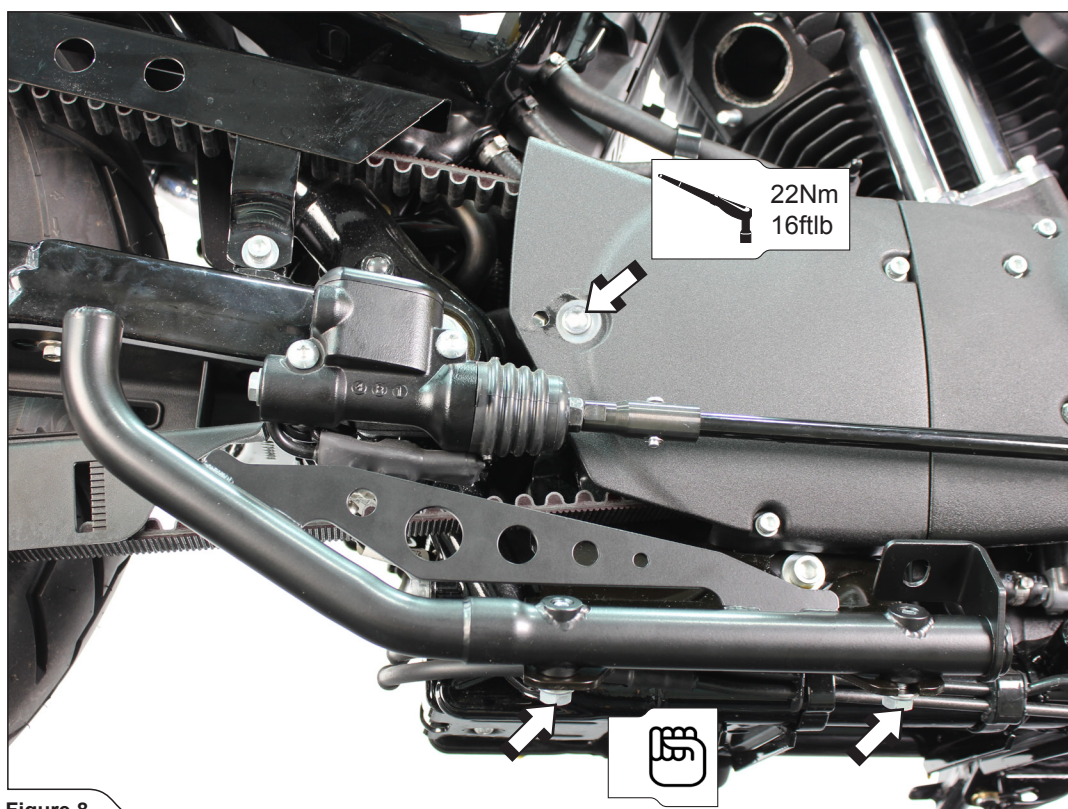

Figure 8
2. Install and hand tighten the muffler's bracket as shown (Figure 8).